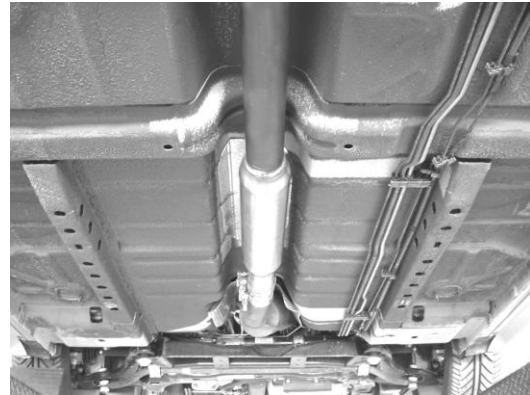

Figure 5
2. Place a clamp over the expanded end of the front pipe/muffler assembly and set it into position as shown in figure 5. **DO NOT** tighten the clamp. Hold front pipe/muffler assembly up in place using a muffler stand or an additional person.